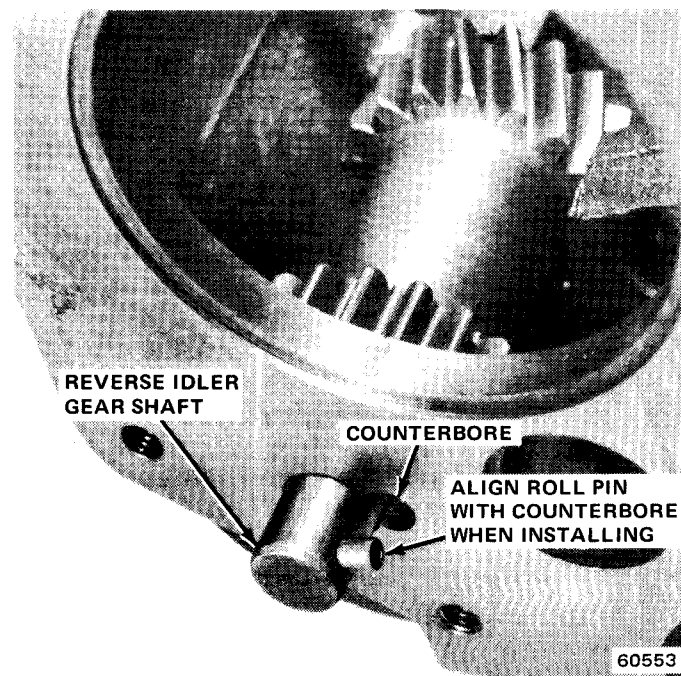

Fig. 6-8 Removing-Installing Reverse Idler Gear Shaft
(10) Remove main shaft assembly. Tilt spline end of main shaft downward and lift forward end of shaft upward and out of case.
(11) Remove countershaft gear and arbor tool as assembly. Remove countershaft gear thrust washers, countershaft roll pin, and any main shaft pilot roller bearings which may have fallen into case during clutch shaft removal.
(12) Remove reverse idle gear shaft. Insert brass drift through clutch shaft bore in front of case and tap shaft until end of shaft with roll pin clears counter-bore in rear of case (fig. 6-8), then remove shaft.
(13) Remove reverse idler gear and thrust washers from case.
(1) Lubricate reverse idler gear shaft bore and bushings with transmission lubricant.
(2) Coat transmission case reverse idler gear thrust washer surfaces with petroleum jelly and install thrust washers in case.
(3) Install reverse idler gear. Align gear bore, thrust washers, case bores, and install reverse idler gear shaft from rear of case. Be sure to align and seat roll pin in shaft into counterbore in rear of case (fig. 6-8).
(4) Measure reverse idler gear end play by inserting feeler gauge between thrust washer and gear. End play should be 0.004 to 0.018 inch. If end play exceeds 0.018 inch, remove idler gear and replace thrust washers.